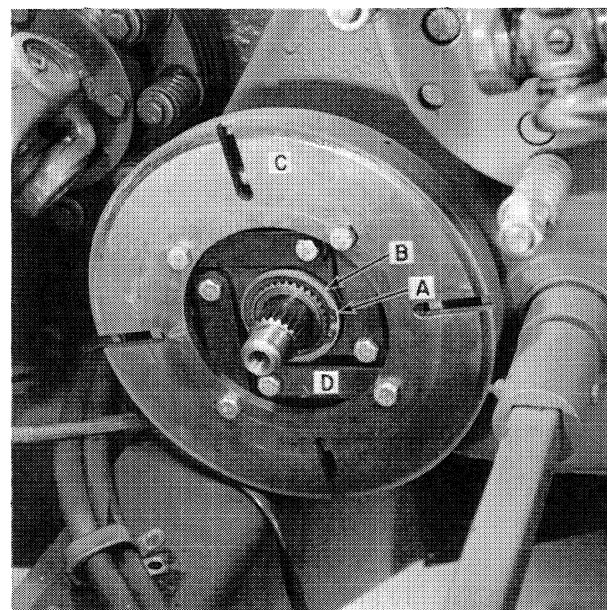

FIGURE 2-11
5. Remove the snap ring, A, Figure 2-11, and shims, B. The armature, C, will slide off the straight splined shaft.
2. Install a snap ring at N, Figure 2-13, if not already installed. Install the armature, I, Figure 2-13, with straps, D, Figure 2-11, pointed in the direction shown. Install enough shims, M, Figure 2-13, to obtain a minimum of 0.010" (0.3 mm) air gap to the reverse magnet. Rotate the armature one full turn to insure there is no contact between the parts.